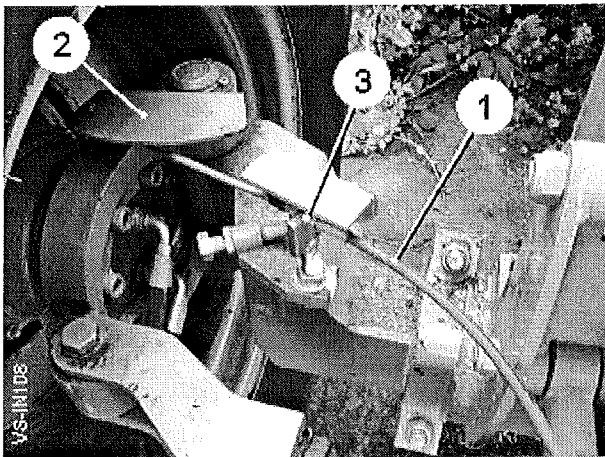
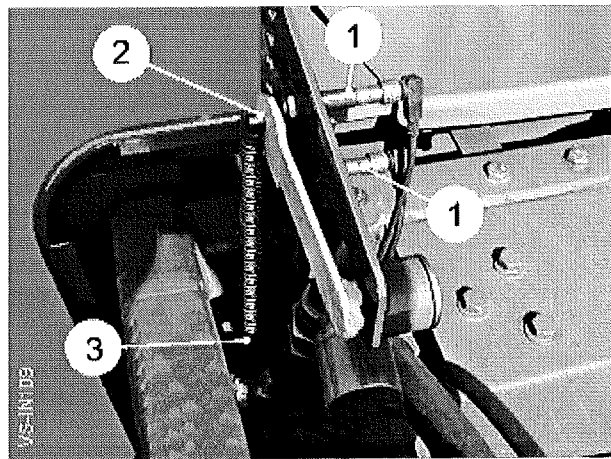

Fig 41
Fig 42
The rear axle self-centring mechanism is combined with the wheel position indicator and is used to bring the harvester wheels back to the straight ahead position after manoeuvring. The centre position is factory-set but may need to be adjusted after a period of service. Should the cable (item 1, figure 41) be in need of adjustment, the wheels will tend to centre to a RH bias. To correct the centre position, the cable can be reset by means of the cable adjuster on the axle king pin mounting. Release the bolts holding the cable anchor plate (item 2, figure 41) to the top of the king pin, and rotate the plate until the wheels return to the straight ahead position when operated. Retighten the bolts fully when the correct position is reached.
The setting of the proximity switches (item 1, figure 42) in the axle position indicator will only need adjustment if the unit has been dismantled for any reason and should be carried out by a competent service engineer. The setting sequence for the indicator unit is as follows and must be followed through in order:
2. Release the cable anchor plate (item 2, figure 41) and set the indicator pointer (item 2, figure 42) to the horizontal position.
3. Set the cable adjusters to the midway position by turning the locknuts (item 3, figure 41 & 42).
4. Lock the cable anchor plate (item 2, figure 41) to the king pin.
5. With an assistant holding down the 'Auto Centre' button, both light bands on the proximity switches (item 1, figure 42) should be off.
6. Check the centre position of the wheels returning from both LH and RH lock and fine tune this position by adjusting the relevant proximity switch. The upper edge of the indicator (item 2, figure 42) will be seen to cover the top proximity switch on LH lock and the lower edge will cover the bottom proximity switch on RH lock. The point at which the light band goes off is the point where the ram stops moving.
8. If a proximity switch does not illuminate, it may need to be moved closer to the indicator (item 2, figure 42) by adjusting the switch body locknuts. Ensure that the proximity switch does not touch the indicator when everything is tight. A clearance of approximately 1mm should be set between the indicator and the face of the proximity switch. At no time should both proximity switches (item 1, figure 42) light up together. A neutral band must always be present where both switches are off.